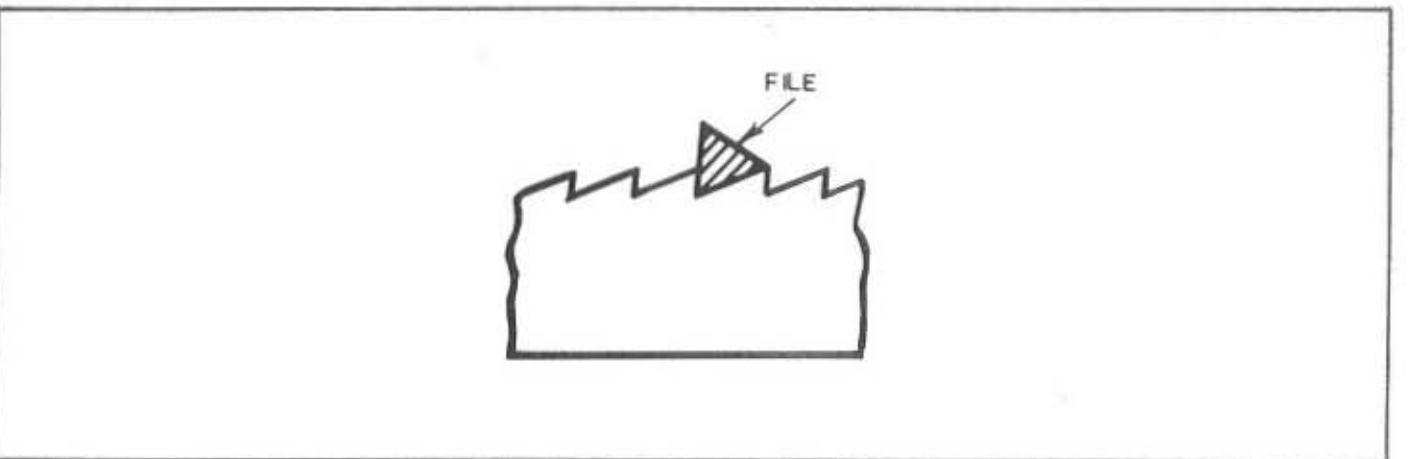

FIG 22
4. Sharpening with a sharp cornered file. See FIG. 22